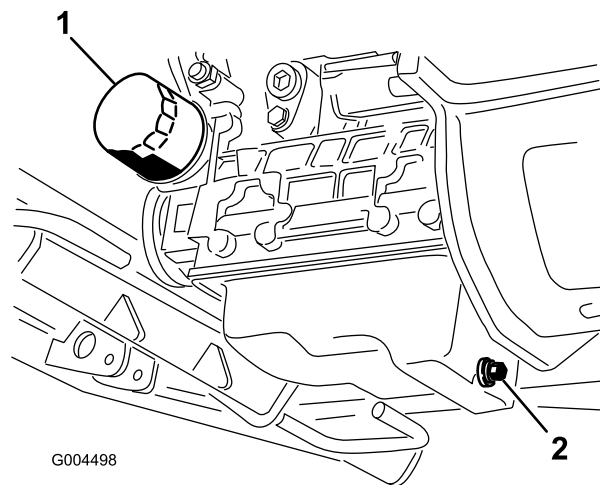

Figure 47
6. Remove and replace the oil filter (Figure 47).
3. Set a drain pan under the oil pan and in line with the drain plug (Figure 47).